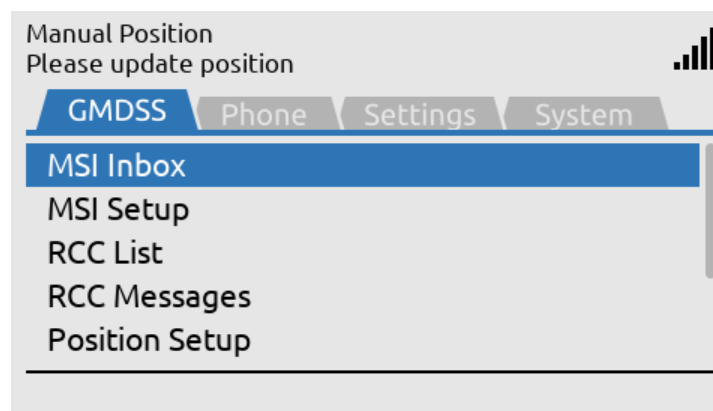

Figure 34: LT-3110S Control Unit - UI display (main menu).
- **MENU / BAM button:** The MENU button is used to open the main menu, as illustrated in Figure 34. The BACK, arrows, and ENTER buttons are used to navigate in the menu layout. Press the MENU button to exit the menu from anywhere in the menu tree (instead of multiple BACK button presses). Long-press ( $> 1 s$ ) the MENU / BAM button and the BAM Alert List will be showed.
The LT-3100S GMDSS system's main menu is accessed by pressing the MENU button on the keypad. The user will be presented with a layout as illustrated in Figure 34.